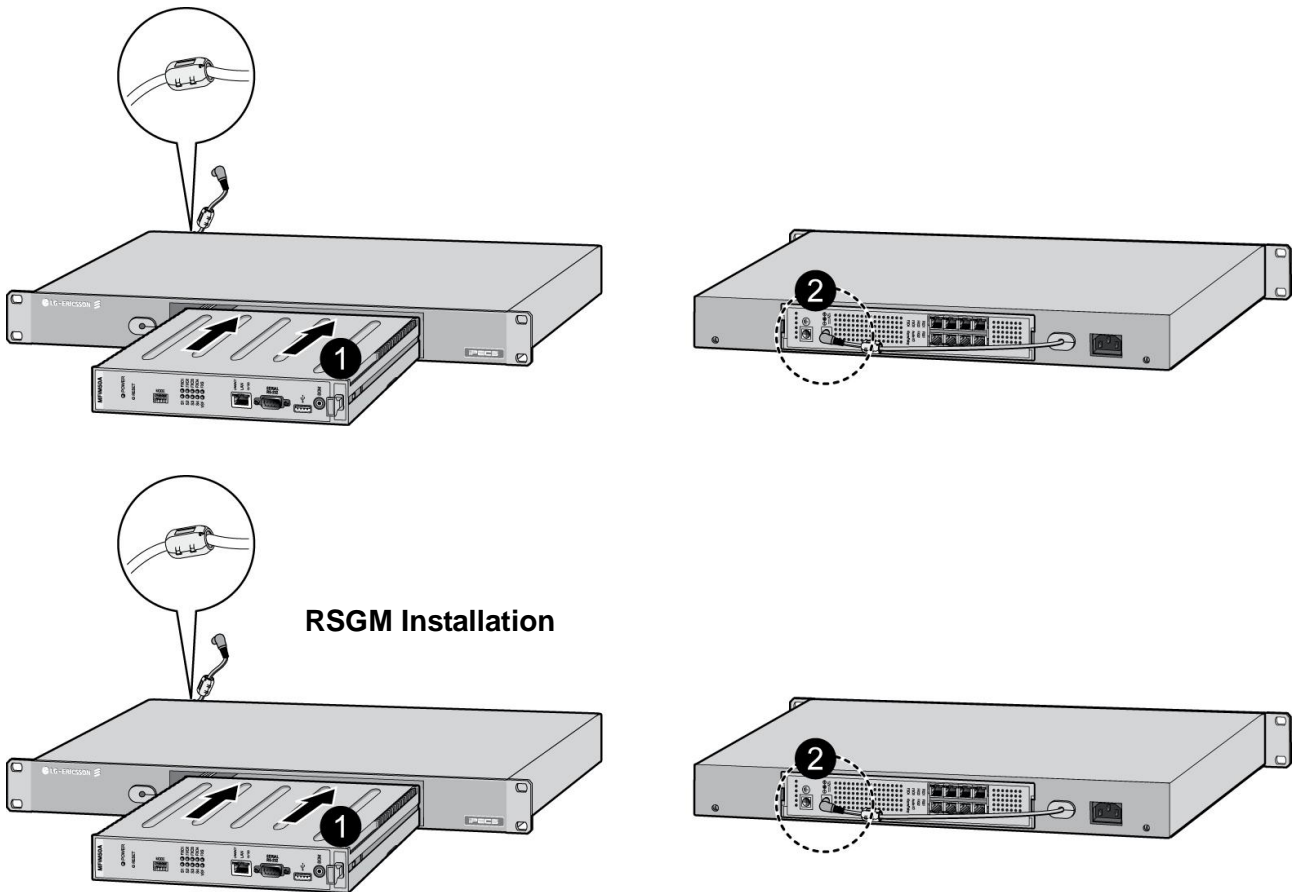

Figure 4.3.5-2 1U-RMB Gateway Installation
3. Install the 1U-RMB in a standard 19" rack securely with four (4) appropriate machine screws, nuts and lock-washers. Refer to Figure 4.3.5-3.